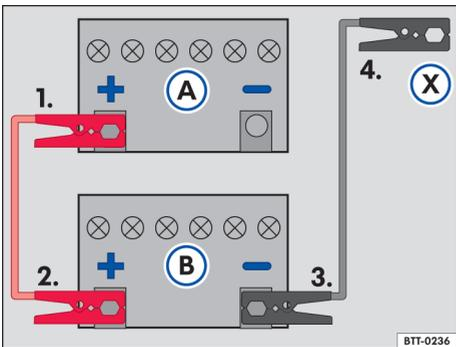

Fig. 150 Jump lead attachment diagram: discharged vehicle battery (A) and battery in the vehicle providing assistance (B).
- Connect one end of the *red* jump lead to the positive terminal → Fig. 150 ⊕ of the vehicle with the discharged battery (A) → ▲.
- Connect the other end of the *red* jump lead to the positive terminal ⊕ of the battery in the vehicle providing assistance (B).
- Connect one end of the *black* jump lead to the negative terminal ⊖ of the battery in the vehicle providing assistance (B).
- Connect the other end of the *black* jump lead (X) to the vehicle with the discharged battery. Connect it to the screwed-in towing eye at the front, a solid metal component which is bolted on to the engine block, or to the engine block itself. However, do not connect it to a point near the vehicle battery (A) → ▲.
Key for → Fig. 150: